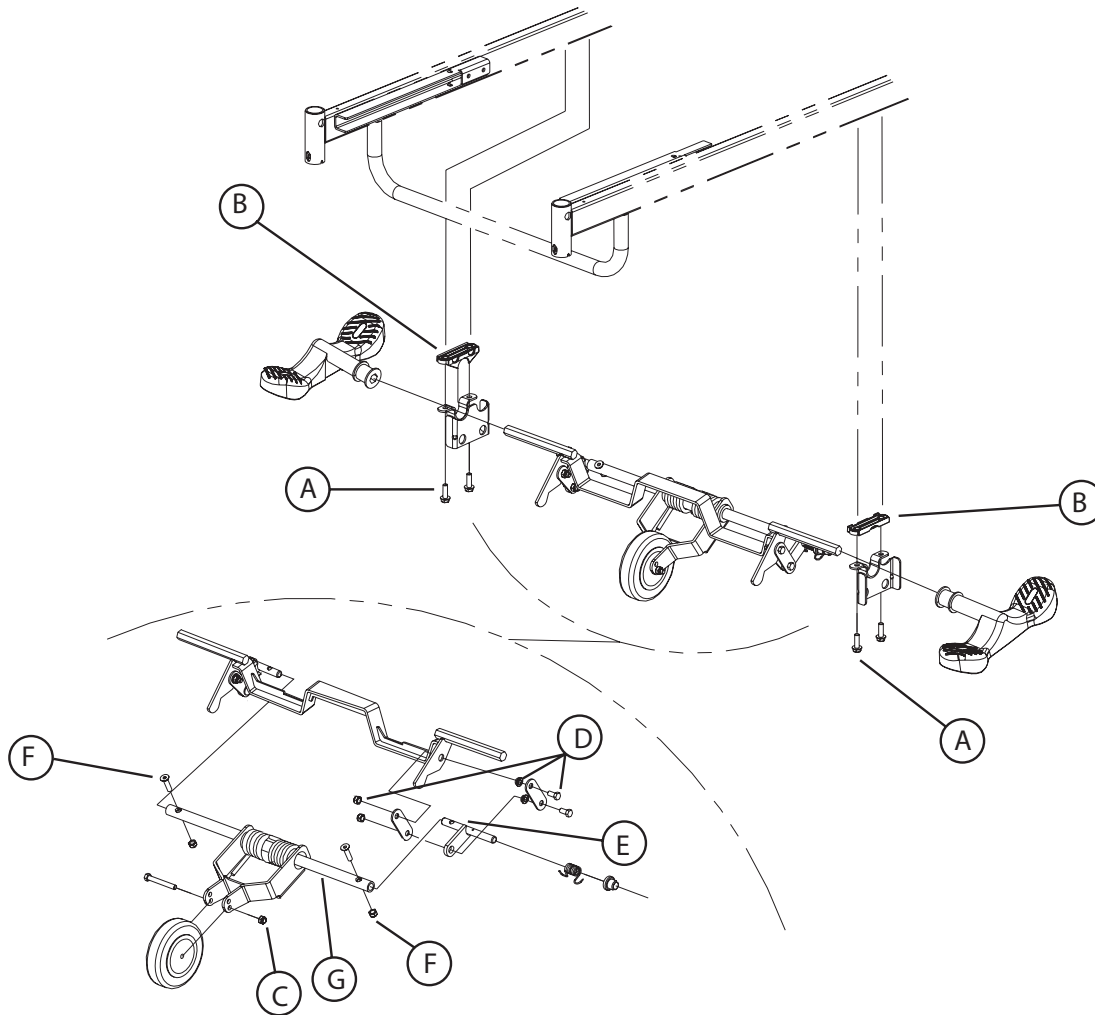

Figure 4.4 A
4. Using the 3/8" Drive Ratchet and the 1/2" socket, remove the two bolts (A) holding the fifth wheel support (optional) or the lever support (F, Figure 4.4 B, (without fifth wheel option) pg. 67) on the side of the defective pedal and lay the support down. Keep the molded spacer (B).